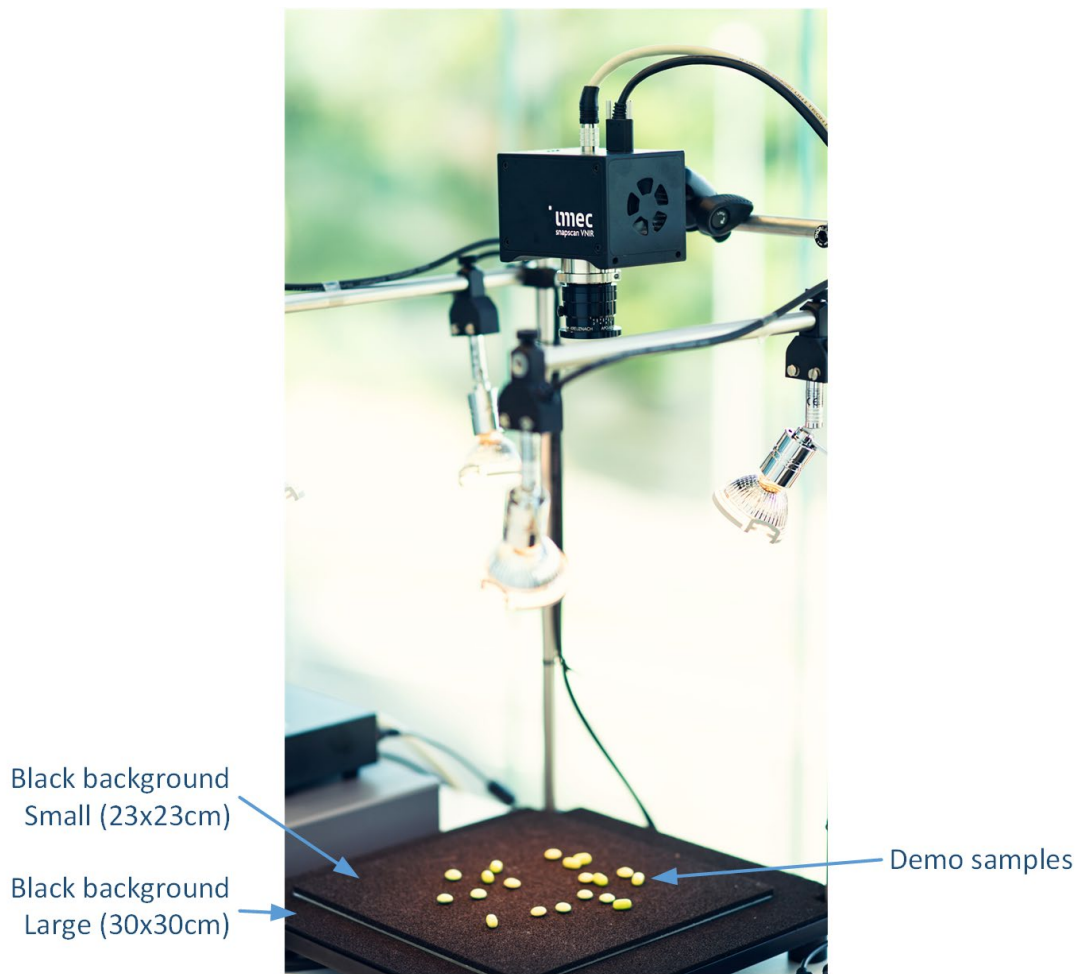

Figure 53 Demo kit included in the snapscan evaluation system
- **Black backgrounds** – Two sizes are included (23x23cm and 30x30cm). These backgrounds can be kept on the base plate and the objects to be scanned can be placed over them, as shown in Figure 53.